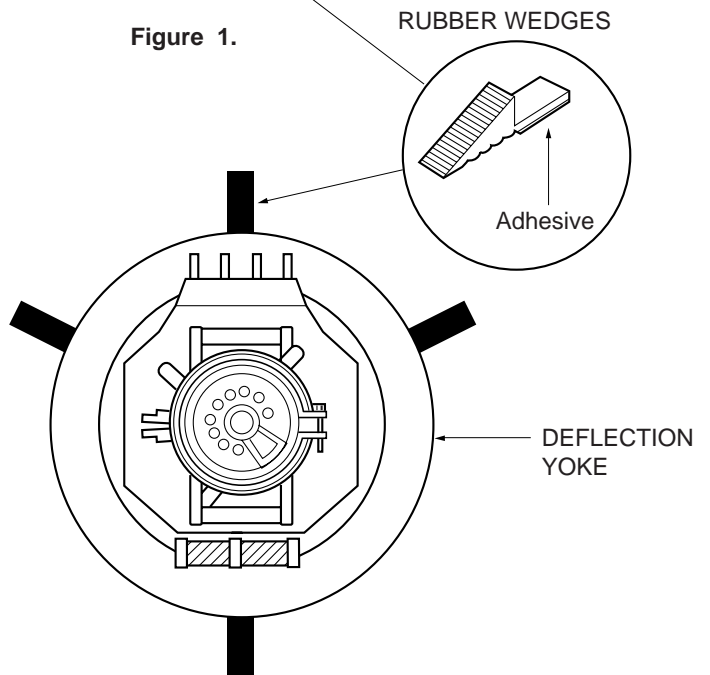

Figure 2.
9. Put four wedges into the space between the picture tube and the yoke to hold the yoke in the adjusted position. (See figure 2.) Do not tilt the yoke by excessive insertion of the wedge.